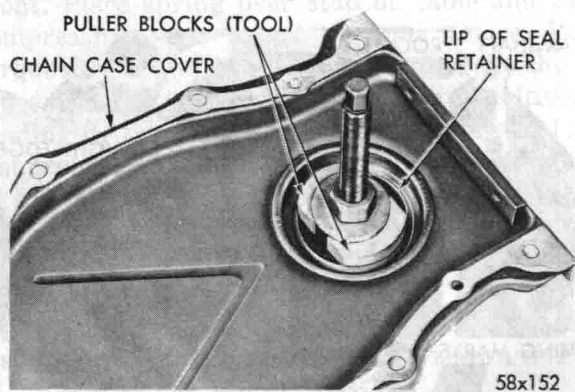
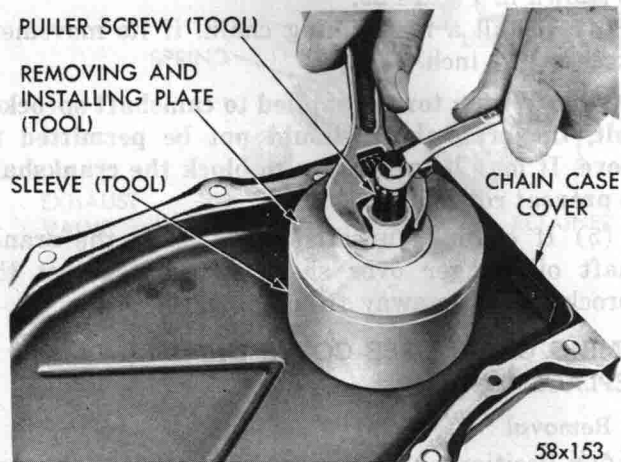

Fig. 30—Removing Timing Chain Case Cover Oil Seal Using Tool C-3506
Fig. 31—Removing Oil Seal
(2) Place washer and nut on puller screw. Tighten the nut as tight as possible by hand, forcing blocks into gap to a point of distorting the seal retainer lip (Fig. 30). This is important (puller is only positioned at this point.)
(3) Place sleeve over the retainer and place removing and installing plate into sleeve.
(4) Place the flat washer and nut on puller screw. Hold the center screw and tighten lock nut to remove seal (Fig. 31).